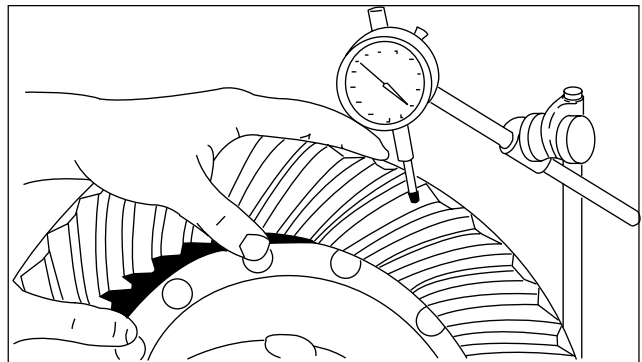

Figure 12.
6. Check ring gear and pinion backlash in four equally spaced positions around the ring gear with a dial indicator as shown. Acceptable backlash tolerance is .006"-.012". See Figure 12.